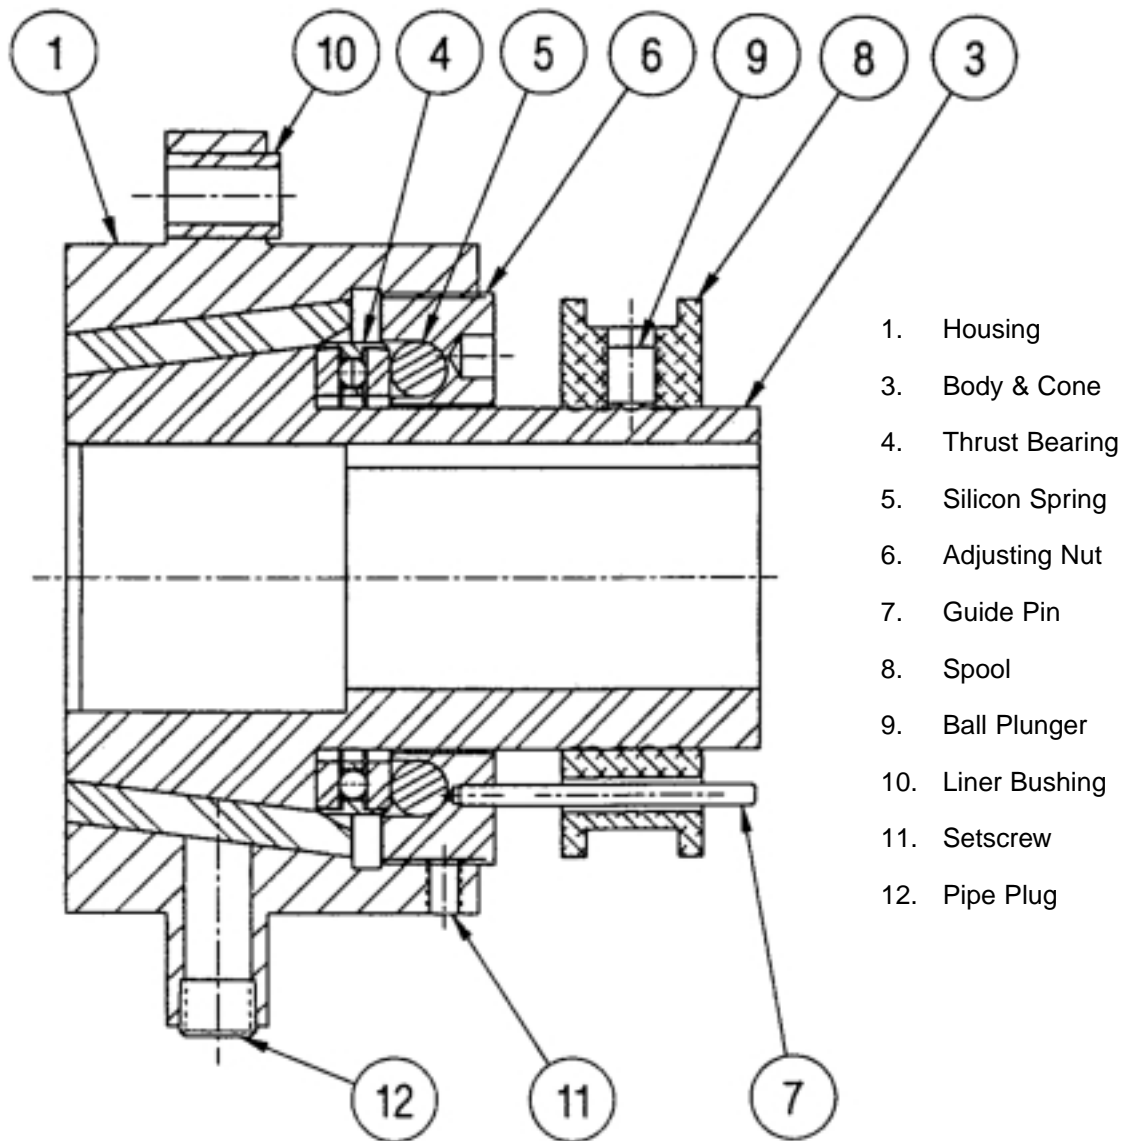

FIGURE 14
The shut-off spool (number 8, Figure 14) is attached to body and cone (number 3, Figure 14) by means of shallow round threads in body and cone (number 3, Figure 14) and a ball plunger (number 9, Figure 14) in spool (number 8, Figure 14). When the clutch is operating normally (i.e. not slipping), there is no relative movement between spool (number 8, Figure 14) and main body (number 3, Figure 14) and the remainder of the clutch, including the spool (number 8, Figure 14) driven by pin (number 7, Figure 14). This relative rotation causes the spool to move along the screw threads on the body (number 3, Figure 14). The spool will move to the left or to the right, depending on the rotation of the clutch. This lateral movement of the spool is intended to activate a limit switch arm located in the center groove in the spool. The "tripped" limit switch should be electrically connected to the controls to stop the operation of the motor driving the indexer.
Manually disconnect the power to the drive motor to prevent an accidental start-up (use O.S.H.A. approved lockout procedures), clear the cause for the overload. Then simply push or pull the spool (number 8, Figure 14) on the main body (number 3, Figure 14) to the thread engagement which is closest to the center position on the threaded portion of the body (number 3, Figure 14). Check the limit switch circuitry for proper operating conditions. The indexer can now be powered up and production resumed.
- a. Loosen cone point setscrew (number 11, Figure 14).
- b. Insert pins of spanner (figure 15) into holes of adjusting nut (number 6, Figure 14), and turn nut clockwise one notch in the adjusting nut. This will tighten the clutch.
If clutch has not been adjusted for a long period of time, it may be necessary to turn the nut counter-clockwise several turns, and tap the face of housing (number 1, Figure 14) towards the indexer with a rubber mallet to separate (loosen) the tapers. Take note of the number of loosening turns so the adjusting nut can be re-tightened to its original position.
- c. Re-tighten setscrew (number 11, Figure 14) making sure it engages in adjusting nut (number 6, Figure 14) to prevent damage to screw threads.
NOTE: If setscrew (number 11, Figure 14) is accidentally tightened on threaded portion of adjusting nut (number 6, Figure 14), it will raise a burr. Failure to remove this burr will cause shearing of threads and jamming of nut of housing (number 1, Figure 14). To remove burr, remove setscrew (number 11, Figure 14) and rotate adjusting nut counter-clockwise until burr is in center of tapped hole in housing (number 1, Figure 14). Use a hand electric drill that fits freely into the tapped hole. Drill into the adjusting nut (number 6, Figure 14) sufficiently to remove the burr.
There are (2) setscrews (number 11, Figure 14). They are positioned so one screw is half way between the slots in the nut when the other screw engages the slot in the nut. This is to allow for fine adjustment of the clutch. DO NOT use both screws at the same time as one screw will not be over a slot and will cause damage to the screw threads.
NOTE: When clutch is not slipping, entire clutch will rotate as a single unit. When clutch is slipping body and cone (number 3, Figure 14) will not rotate with the other parts of the clutch. Small amounts of clutch slippage can be difficult to determine. To aid in providing if the clutch is slipping, use a grease pencil or felt tip marker and draw a line across face of nut (number 6, Figure 14) and along body (number 3, Figure 14). If clutch is slipping, the line on nut (number 6, Figure 14) and body (number 3, Figure 14) will move relative to each other.
- a. Clutches are grease packed at the factory and should not require additional lubrication. If clutch is subject to consistent slippage and heating, remove pipe plug (number 9, Figure 14) and insert your standard grease fitting, lubricate with Lithium EP grease. Do not use air pressure gun!